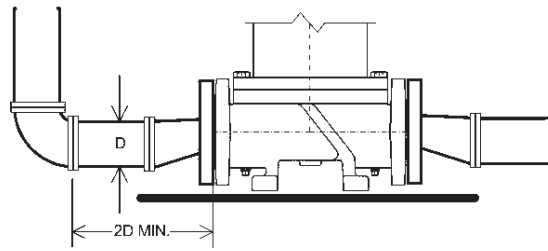

Figure 8: Piping Elbows
1. Use of elbows close to pump suction should be avoided. There should be a minimum of two pipe diameters of straight pipe between elbow and suction inlet (Reference Figure 8). All elbows should be long-radius.